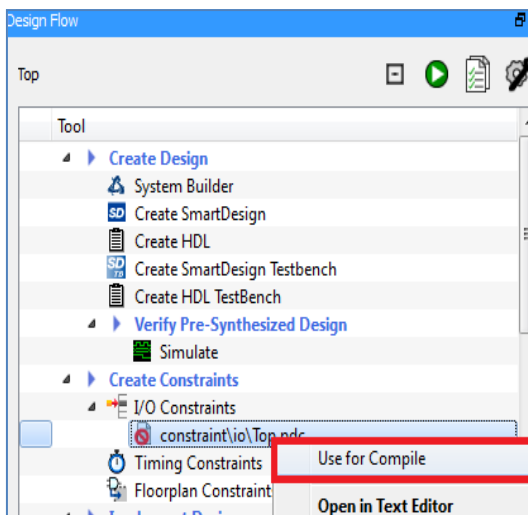

Figure 37 Applying the Imported PDC File for Compile Operation
- Right-click on **constraint\io\Top.pdc** and select **Use for Compile** to use the file for Compile, as shown in Figure 37.